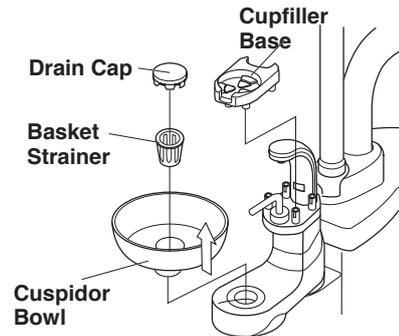

Fig.5-1 Cuspidor Bowl, Drain Cap and Basket Strainer
#### (1) Cuspidor Bowl (Fig.5-1)